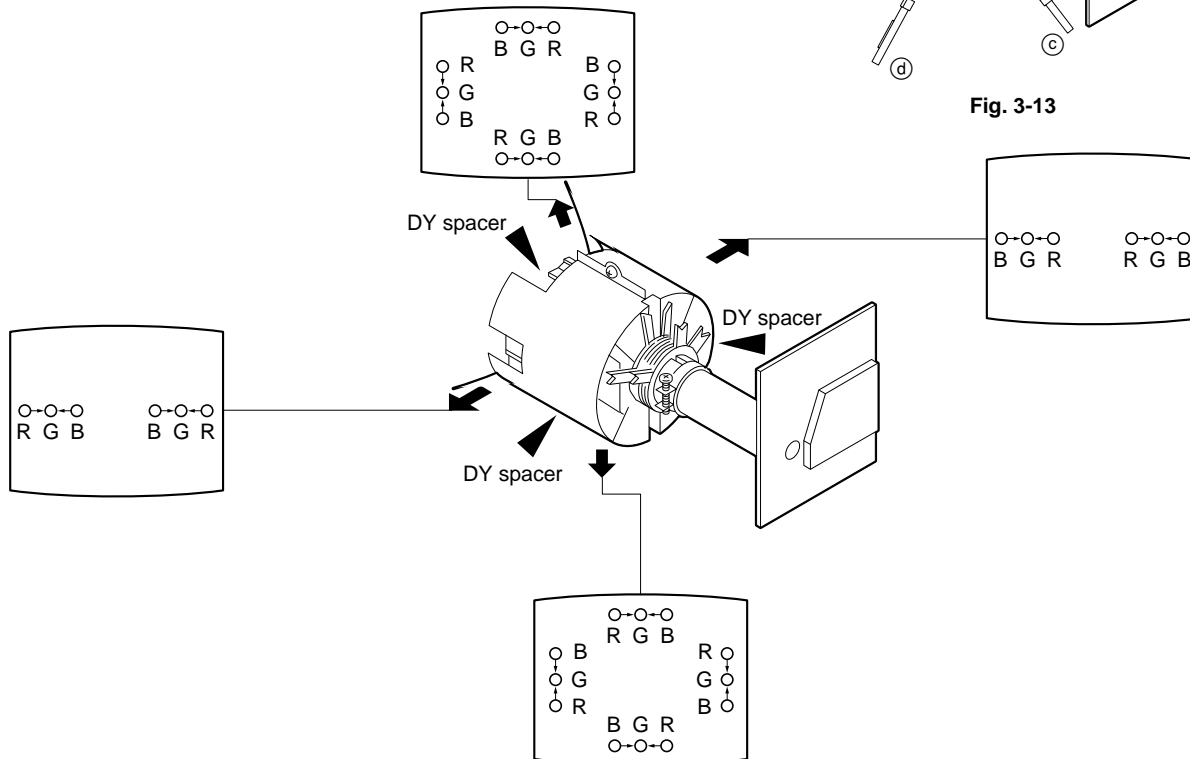

Fig. 3-12
2. Insert the three DY spacers between the deflection yoke and picture tube's funnel as shown in Fig. 3-12.